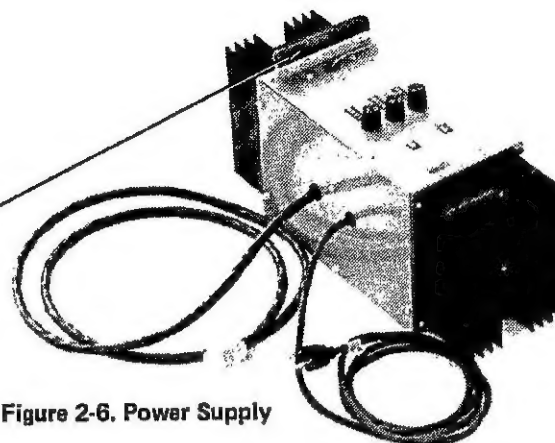

Figure 2-6. Power Supply
Step 1 Connect a voltmeter across the 5-ohm resistor on the power supply. The meter should be set to the 10 Vdc scale (or higher), with the leads connected as shown in figure 2-6.